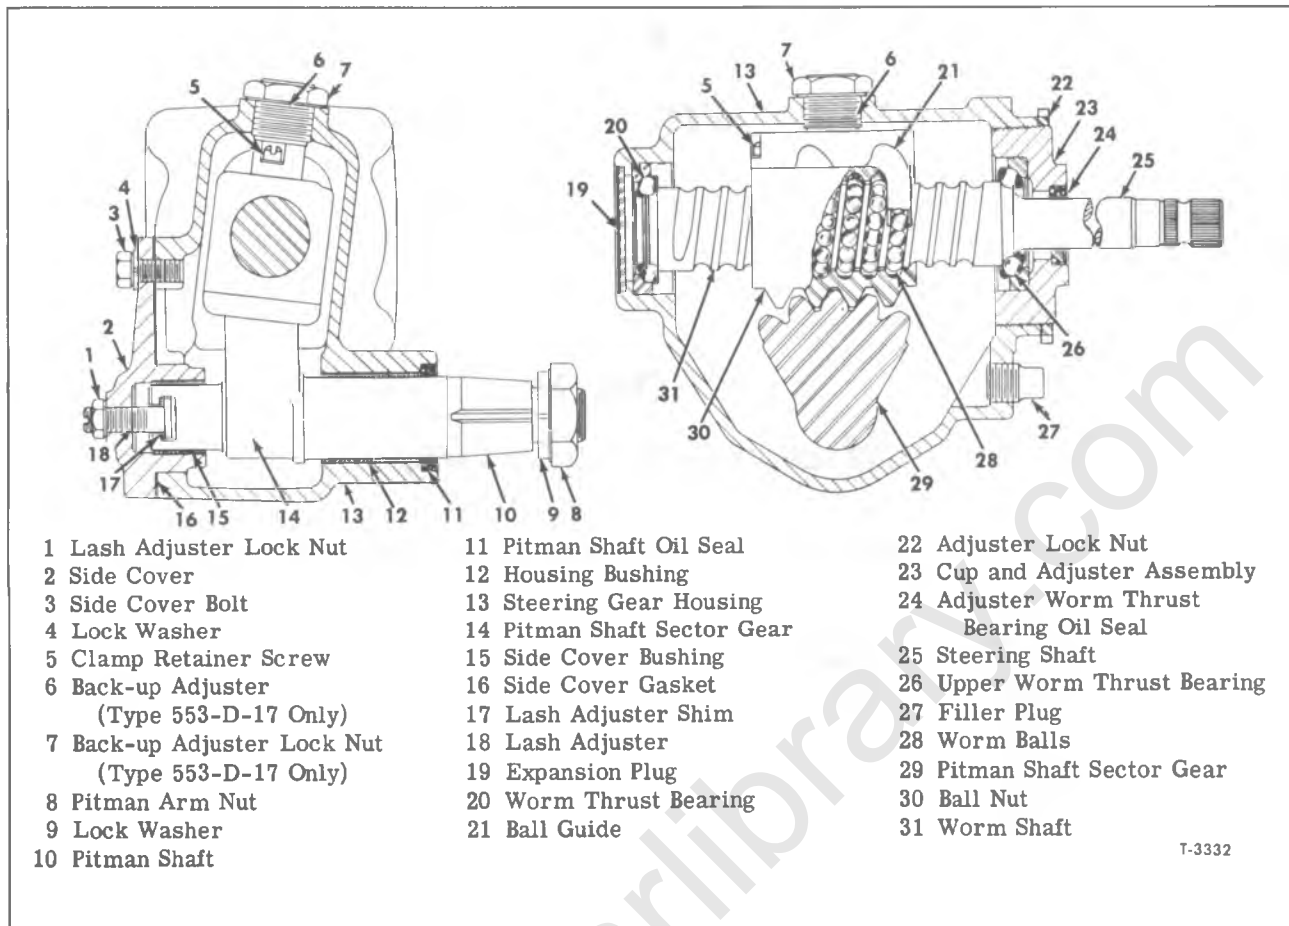

Figure 1—Type 549-D and 553-D Steering Gear (Typical)
The type 549-D and 553-D steering gear assemblies shown in figure 1 have an adjuster assembly at shaft end of gear housing for adjustment
(Refer to Figures 1 and 4)
1. Loosen adjuster lock nut (22) (fig. 1) at shaft end of steering gear and turn worm bearing adjuster screw (23) clockwise until there is no perceptible end play in the worm.